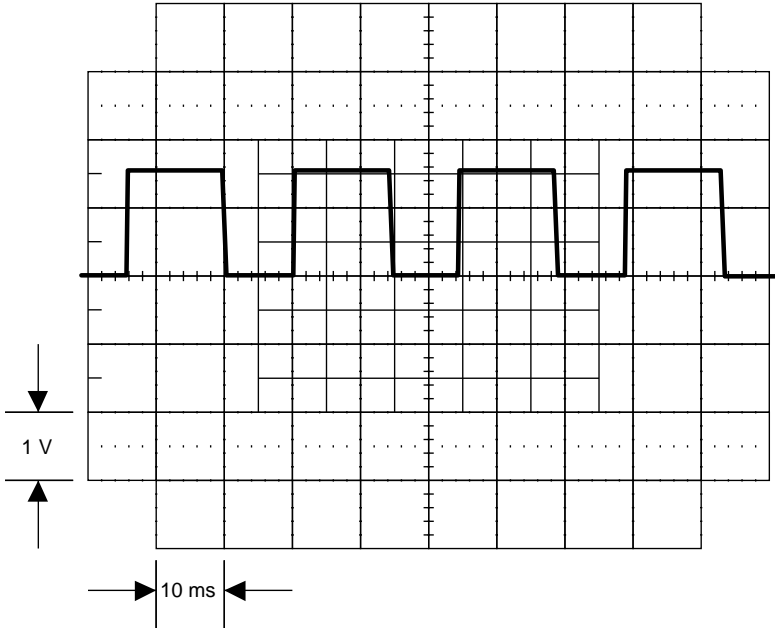

Figure 5-20. Waveform at TP7
- 5. Check CH2 FILTER INPUT. Connect an oscilloscope probe to TP7 (common to TP3). Set the 5700A to 6.5V dc, operate. Set the oscilloscope to 2V/div at 2 ms/div. Verify the oscilloscope displays pulses similar to those shown in Figure 5-20.
13. Check CH2 FILTER INPUT. Connect an oscilloscope to TP7 (common to TP3) and set it to 2V/div at 2 ms/div. Verify it displays a signal similar to the previously shown Figure 5-20.
The duty cycle may differ from Figure 5-20. If a failure is detected, check U11, Q30, Q31, Q32, and their associated components.